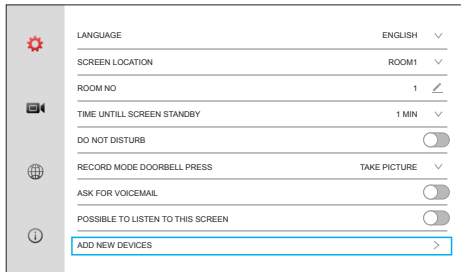

Figure 9
Step 3: At the standby state, press , to enter system main menu, Click , to enter the interface as Figure 9, then click "ADD NEW DEVICES" as shown on the figure.